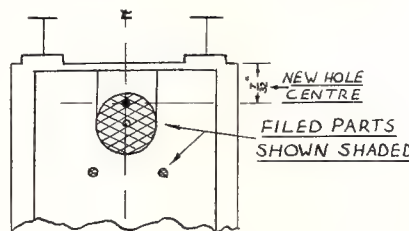

FIG 3
5. The coupler can be now fixed to the truck by marking the position of the screw hole with the centre or prick punch $7/32$ " in from the buffer beam and on the centre line of the truck as shown in fig. 3.